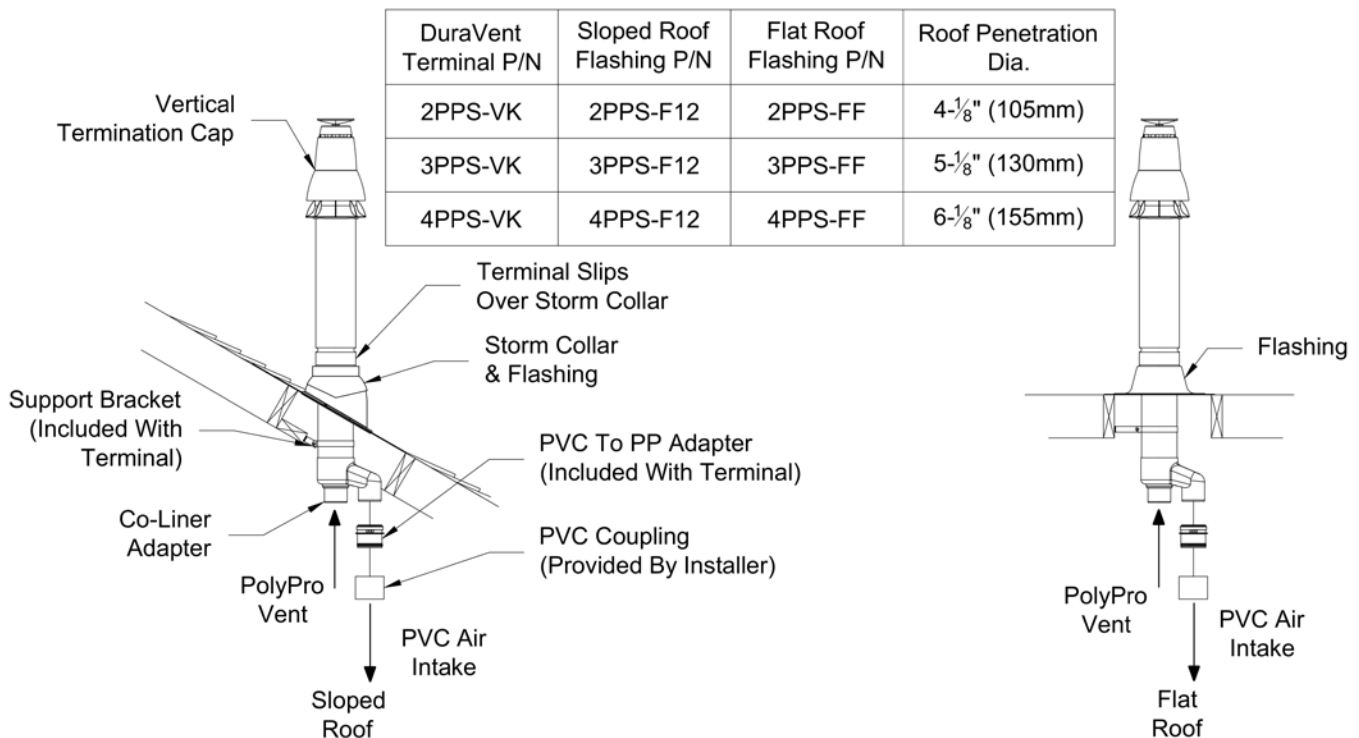

Figure 7.39: Installation of DuraVent PolyPro Concentric Terminal Through Roof
7. Vertical Installations using PolyPro Vertical Concentric Termination Kit #3PPS-VK or #4PPS-VK (Figure 7.39):
- Use a roof flashing and storm collar to prevent moisture from entering the building. See Figure 7.39 for the model number of the flashing to be used depending on the type of roof. Seal the roof flashing to the roof using generally accepted practice for the type of roof on the installation.